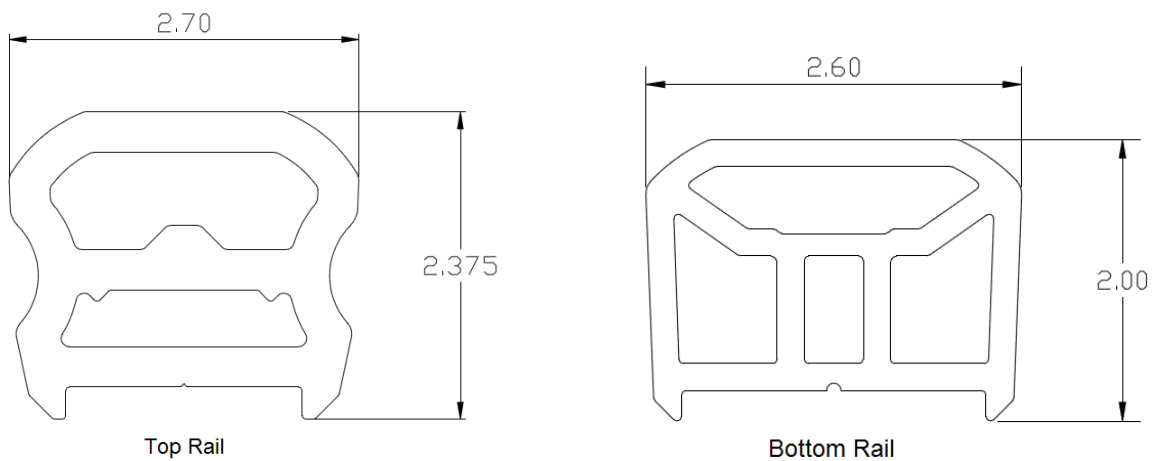

Figure 3 - RadianceRail® Express, Rail Profiles
3.3.1. *RadianceRail® Express* rails (top and bottom) and post sleeves are co-extruded with a PVC color cap layer and wood/plastic composite core. See Figure 3.